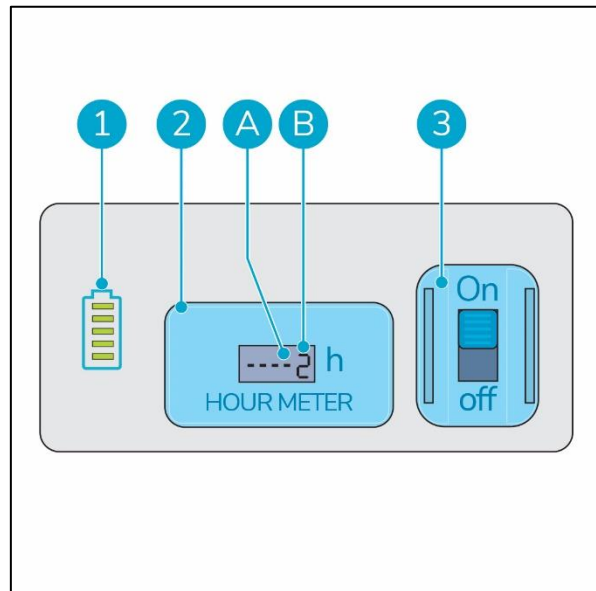

Figure 5
2. Hour meter. The counter on the right (Figure 5, pos B) counts in 6 minute cycles. This means that if the display shows an “1”, the i-cover® 1.0 has run for 6 minutes. After 10 cycles, the second counter from the right (Figure 5, pos A) will show an “1”, this indicates 1 hour. The counter on the right (Figure 5, pos B) starts again at “1”.